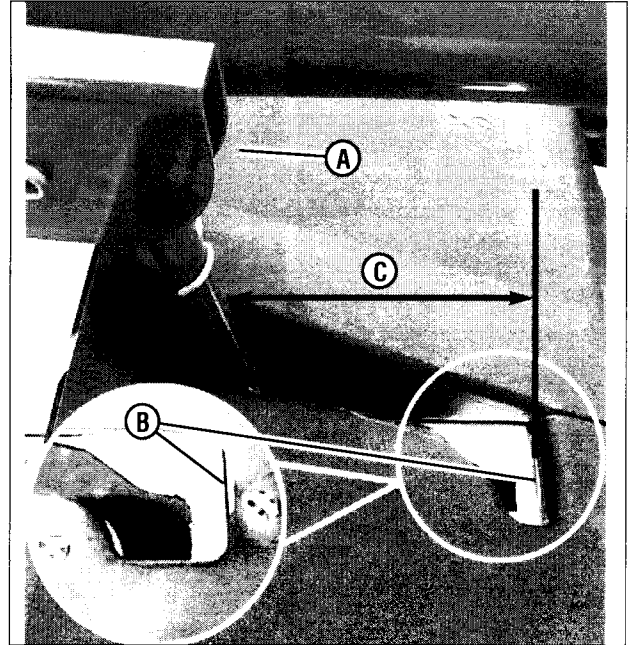

Figure 32: Measuring blade brake clearance
1. With the blade engagement lever disengaged, measure the distance between the front of the blade lever (A, Figure 32) and the edge of the latch plate (B). The dimension (C) should be 3" to 3-1/4" clearance between the lever and the edge of the plate. If the dimension is incorrect go to step 2.